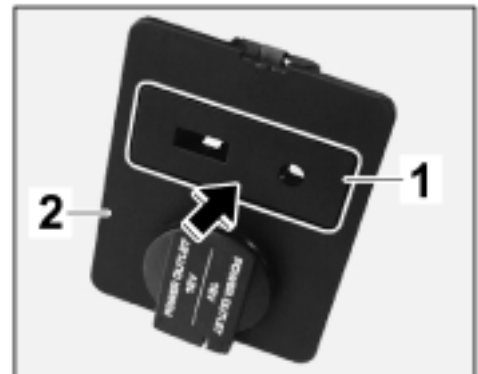

Figure 23
- 4.2.2 Clip adapter ⇒ *Figure 23 -1-* into audio interface ⇒ *Figure 23 -2-*.